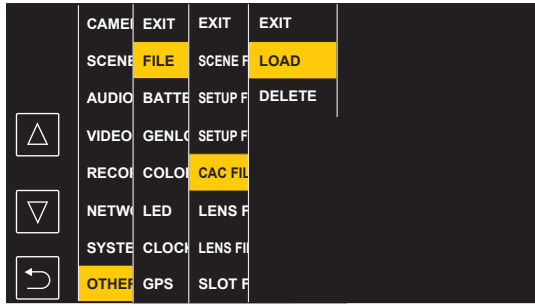

Fig. 1
- 2 Select the [OTHERS] menu → [FILE] → [CAC FILE(SD CARD)] → [LOAD]. (Fig. 1)